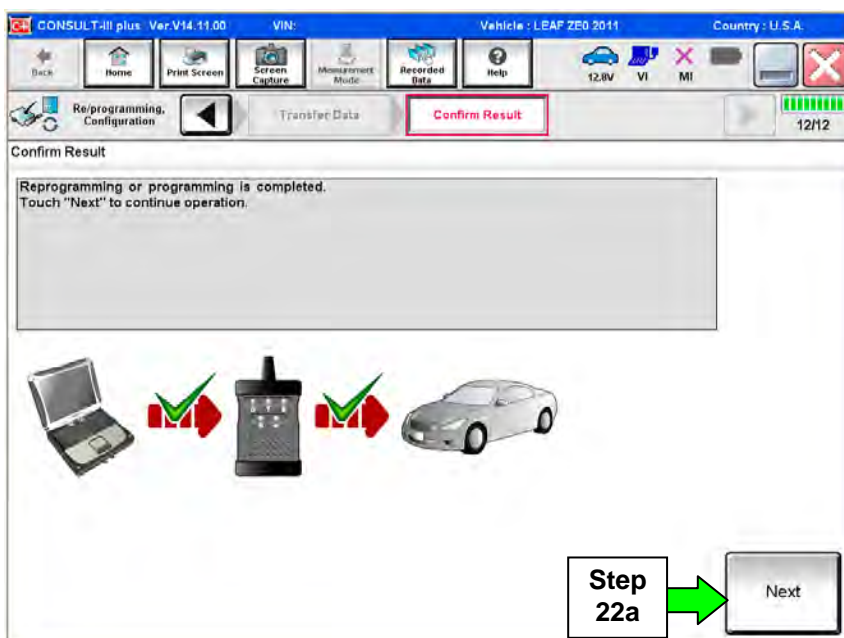

Figure 17
22. When the screen in Figure 17 appears, reprogramming is complete.